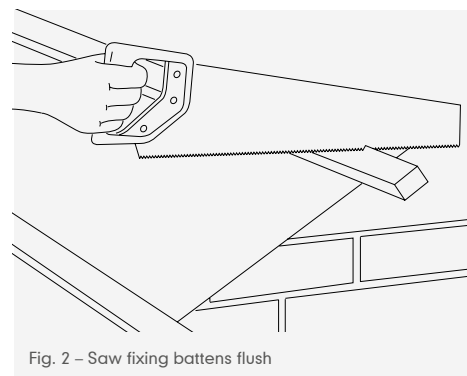

Fig. 2 – Saw fixing battens flush
- 2 Saw ends of tiling battens off flush with gable wall or bargeboard and nail within a maximum of 500mm from end (Fig. 2).